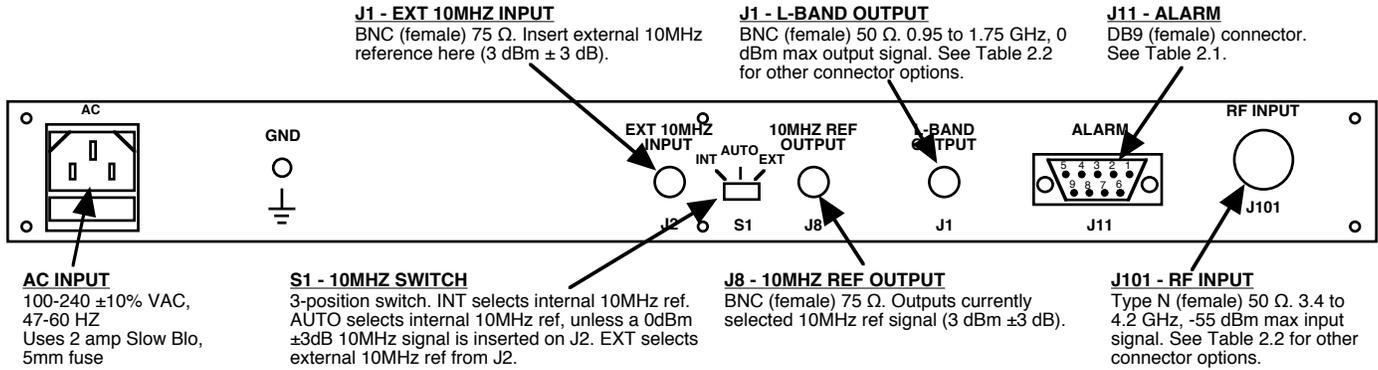

FIGURE 2.1 2116-35 Rear Panel I/O's
2.2 Rear Panel Input/Output Signals - Figure 2.1 shows the input and output connectors on the rear panel.
- 1.) Connect a -55 dBm to -35 dBm signal to RF INPUT, J101 (Figure 2.1).
- 5.) Select either INT (for internal 10MHz ref), AUTO (for internal 10MHz ref UNLESS a external 10MHz, 0 dBm signal is connected to J2), or EXT (for external 10MHz, 0 dBm ref that is inserted at J2) on rear panel switch S1 (Figure 2.1).
- 7.) Check that a 10MHz, 0 dBm \pm 3 dB signal is present at the 10MHZ REF OUTPUT (J8) (Figure 2.1).